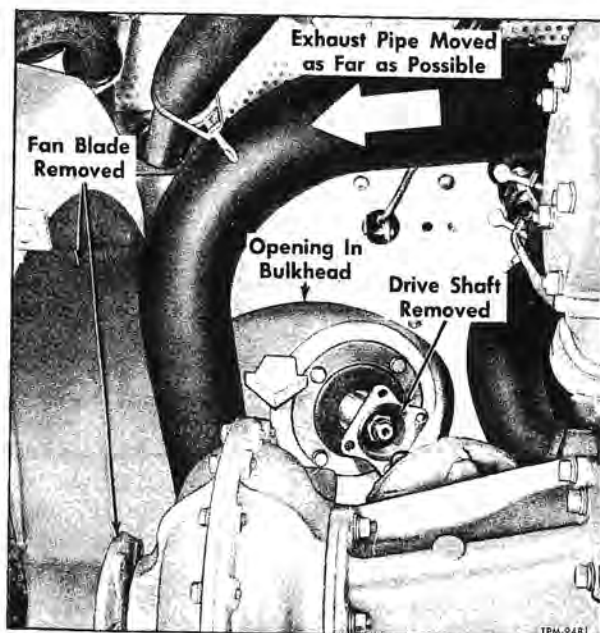
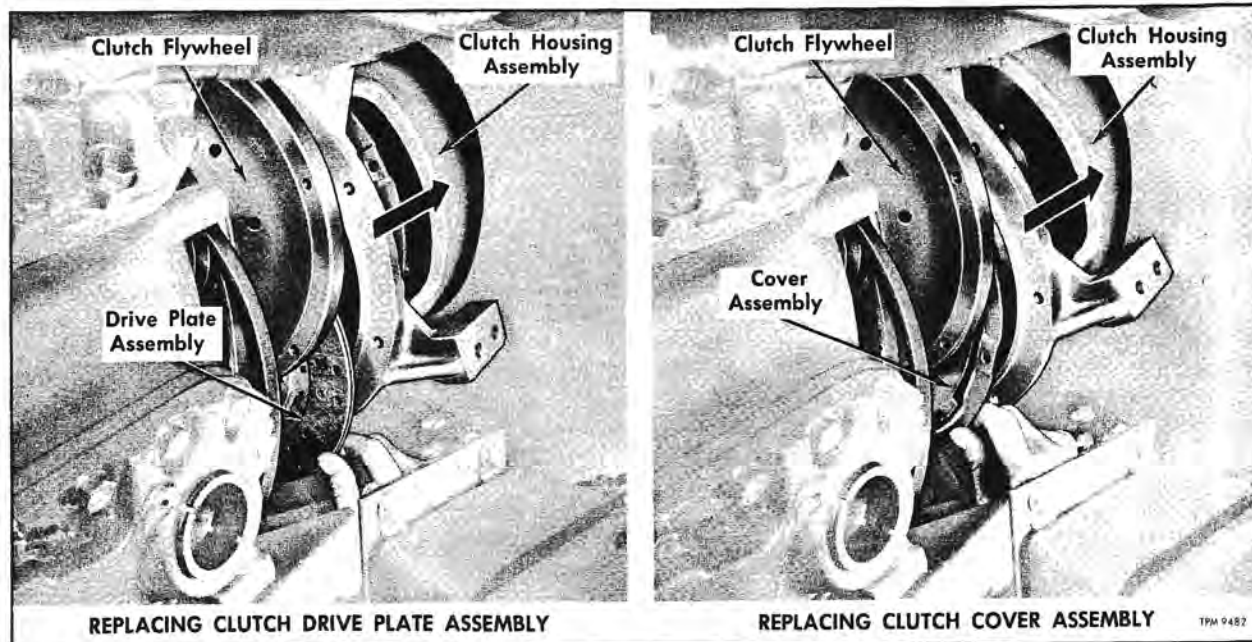

Figure 99—Access To Clutch Housing Through Engine Compartment (Typical)
Figure 100—Replacing Clutch Drive Plate and Cover (Compressor in Coach)
5. Remove fan blade from engine. Through access hole in seat-back above engine, disconnect exhaust pipe from exhaust manifold. Also loosen exhaust pipe at muffler base. Move exhaust pipe toward radiator as far as possible. See figure 99.
10. Referring to figure 99, move clutch housing rearward into propeller shaft opening in body bulkhead. With the aid of an assistant to retain housing in position, remove cover attaching bolts, then work clutch drive plate and cover assembly from clutch housing in manner shown in figure 100.
1. Referring to figure 100, insert clutch cover and drive plate into clutch housing as shown.